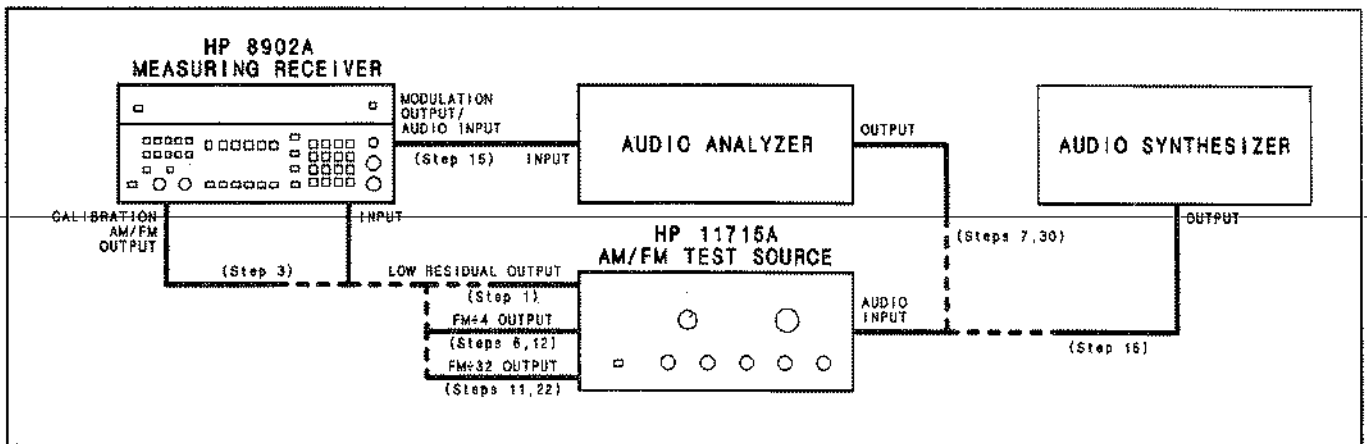

Figure 4-2. FM Performance Test Setup
1. On the AM/FM test source, set the test mode to residual FM. Connect its low-residual (560 MHz) output to the Measuring Receiver's INPUT. (See Figure 4-2.)
3. Connect the Measuring Receiver's CALIBRATE AM/FM OUTPUT to the INPUT. (See Figure 4-2.)
- On the AM/FM test source, set the test mode to FM. Connect its FM÷4 output to the Measuring Receiver's INPUT. (See Figure 4-2.)
- Set the audio analyzer's oscillator to 10 kHz at 1V. Connect its output to the audio input of the AM/FM test source. (See Figure 4-2.)
- Connect the FM÷32 output of the AM/FM test source to the Measuring Receiver's INPUT without disturbing the AM/FM test source's controls. (See Figure 4-2.) Multiply the displayed ratio on the Measuring Receiver by the calibration factor of step 4. (For example, if the display reads 12.52% REL and the calibration factor of step 4 is 100.4%, the result is $12.52 \times 100.4 = 12.57\%$ REL.) The result should be between 12.35 and 12.65% REL.
- Connect the FM÷4 output of the AM/FM test source to the Measuring Receiver's INPUT. (See Figure 4-2.)
- Connect the audio analyzer's input to the Measuring Receiver's **MODULATION OUTPUT/AUDIO INPUT**. (See Figure 4-2.) Set the audio analyzer to measure the distortion on the 100 kHz signal at the **MODULATION OUTPUT/AUDIO INPUT** (all audio analyzer filters should be off). The distortion should be 0.1% or less (–60 dB or less).
16. Set the audio synthesizer to 10 kHz at +5 dBm. Connect its output to the audio input of the AM/FM test source. (See Figure 4-2.) Fine adjust the level for a Measuring Receiver display of 100 kHz times the calibration factor of step 5. (For example, if the calibration factor of step 5 is 100.4%, set the level for a display of 100.4 kHz.)
22. Connect the FM÷32 output of the AM/FM test source to the Measuring Receiver's INPUT. (See Figure 4-2.)
30. Set the audio analyzer's oscillator to 10 kHz at 4V. Connect its output to the audio input of the AM/FM test source. (See Figure 4-2.) Fine adjust the oscillator level for a Measuring Receiver display of 10 kHz peak deviation.